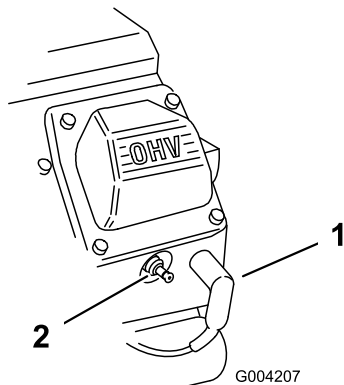

Figure 22
1. Pull the wires off of the spark plugs (Figure 22).